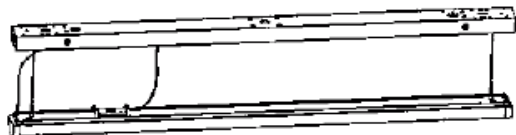

Figure 11
Step 2: Assemble the DC sensor to the corresponding position. (Figure 11)